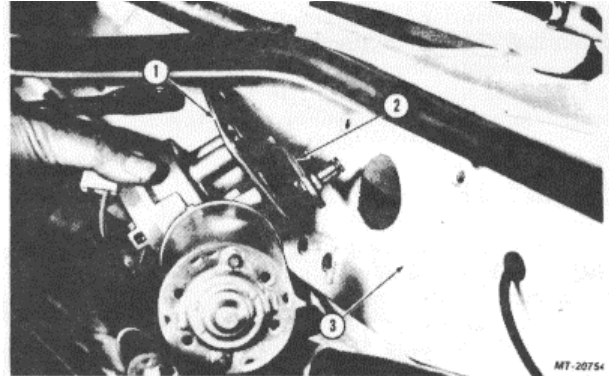

Fig. 5. Removing Windshield Wiper Motor
3. Remove wiper motor bracket mounting bolts and detach motor assembly. Drive lever should remove through hole in cowl (Fig. 5).